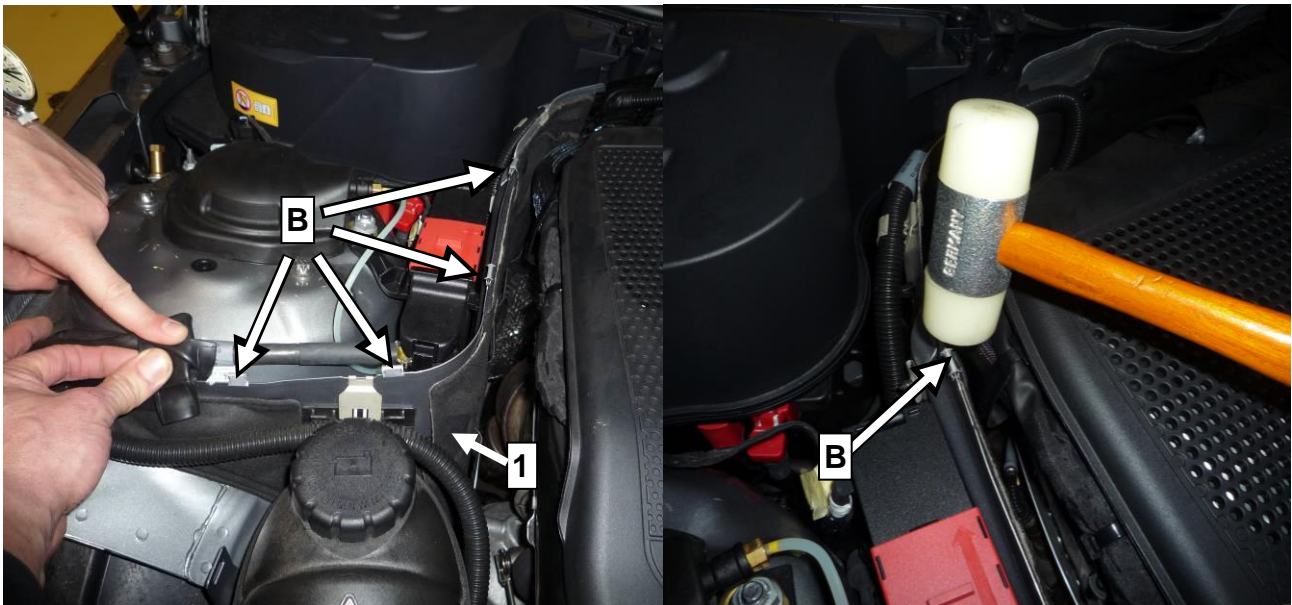

Figure 2
2.  Install 4 retaining clips (B, Figure 2) as shown then hammer clips (B) onto upper edge of secondary bulkhead (1) until they are seated on the bulkhead (1).